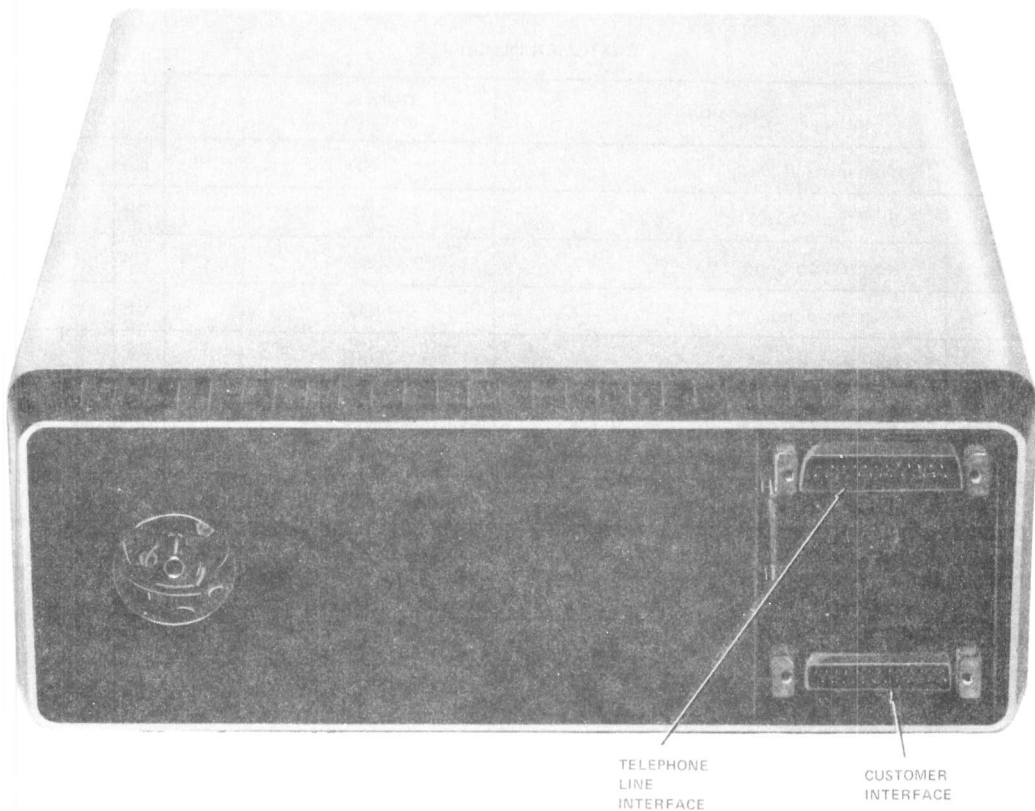

Fig. 2—DS 201C-L1D/2/4/5—Rear View
**1.06** Connections to the CPE (Table A) are made through the 25-pin CUST INT connector at the rear of the data set (Fig. 2). This connector mates with a customer supplied Cinch or Cannon DB-19604-432 plug wired in accordance with Table A.
**1.07** Connections to the telephone line (Table B) are made through a second 25-pin connector at the rear of the data set (Fig. 2). For private line service with a channel interface unit (CIU), an M8K cord is provided with the data set. For private line service without a CIU, a D25D cord (ordered separately) is required.